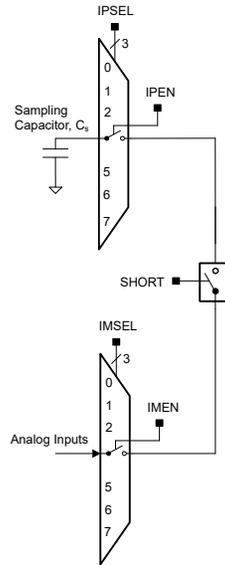

Figure 6-9. Comparator Short Switch
As shown in Figure 6-9, the required sampling time is proportional to the size of the sampling capacitor (CS), the resistance of the input switches in series with the short switch (R), and the resistance of the external source (RS). The sampling capacitor CS must be greater than 100pF. The time constant, Tau, to charge the sampling capacitor CS can be calculated with Equation 2.